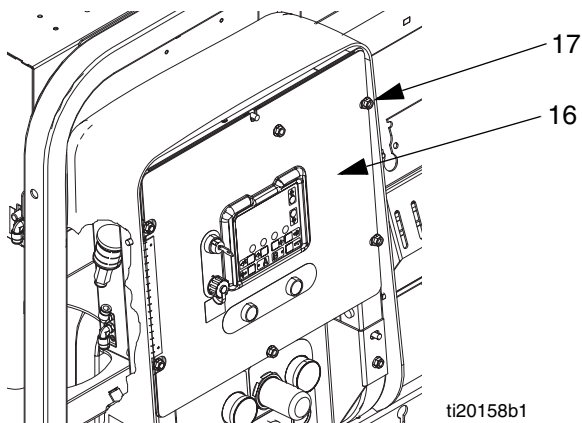

FIG. 3
2. Remove four nuts (21) and then remove front and rear shrouds (19, 20).
4. Remove four nuts (17); leave two nuts on left side of panel tight. Open front panel of control box (16). See FIG. 3.